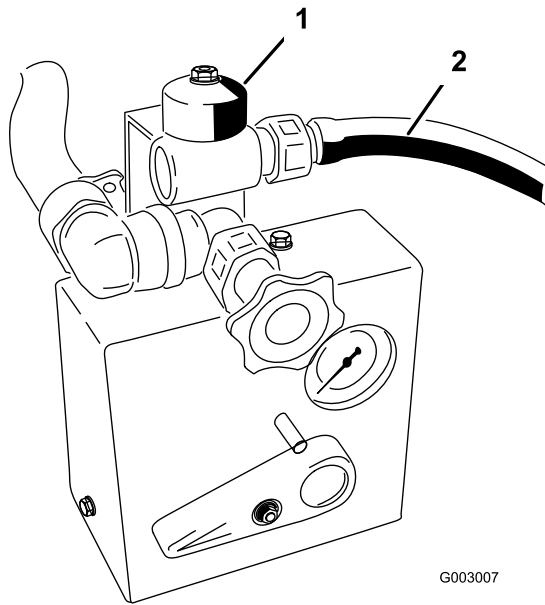

Figure 18
1. Thread and tighten the nut on the end of the hose and spray gun assembly to the threaded male fitting on the control valve assembly (Figure 18).